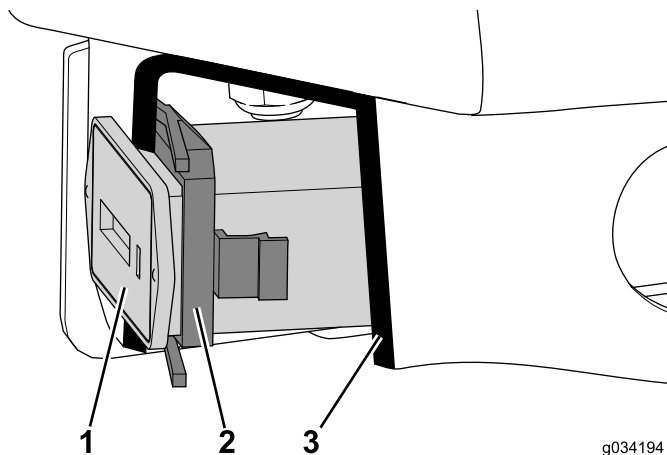

Figure 26
1. Press hour meter into the cutout until and secure it with the retainer (Figure 26).